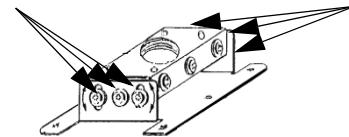

Figure 9. Adjust Pitch
1. Loosen (slightly) three #10-24X3/8" pitch adjustment screws located on each side of the adjustment plate (see Figure 9).